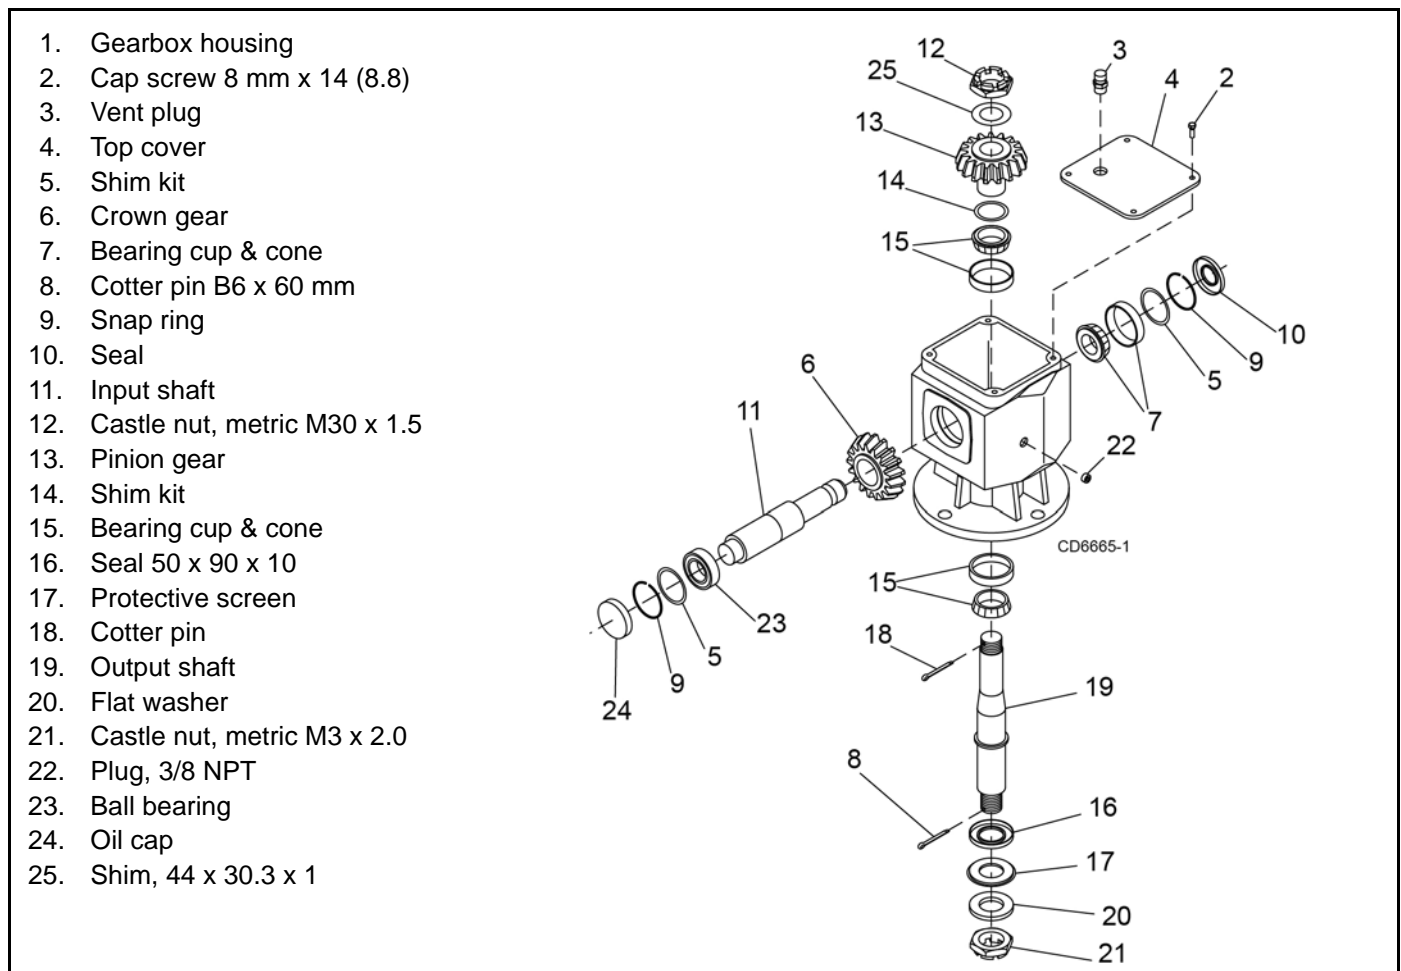

Figure 18. BB84.40 Gearbox Assembly
(Figure 18)
SEAL REPAIR - BB84.40 (Figure 18)
2. Remove vent plug (3) and siphon gear lube from housing through this opening.
3. If the leak occurred at either end of horizontal shaft (spindle gearbox), remove oil cap (24) and/or oil seal (10). For splitter gearbox (Figure 18) use oil seals (11) and (17). Replace with new one (refer to Seal Installation, page 23).